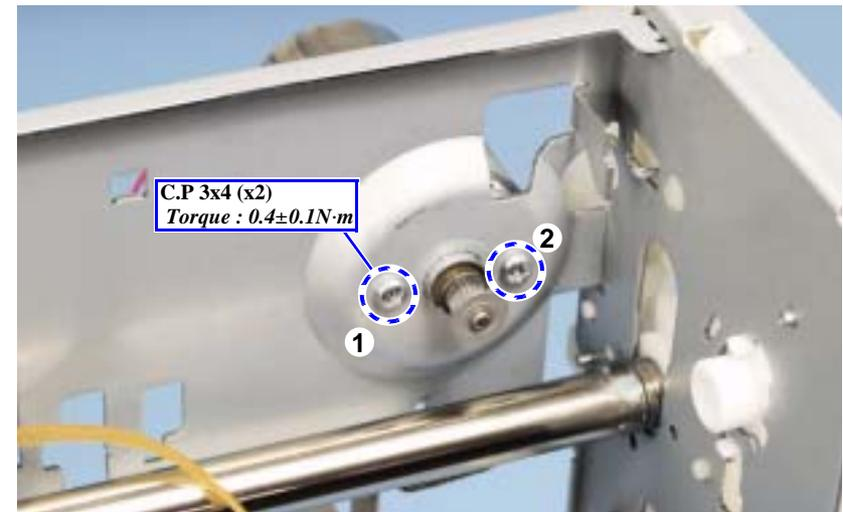

Figure 4-64. Removing the CR Motor
5. Remove the screws (x2), and remove the CR Motor. (Fig. 4-64)
- Tighten the screws in the specified order. (Fig. 4-64)